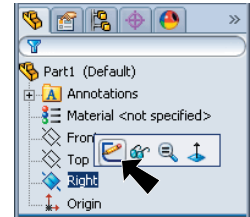

Fig. 1
Step 2. Click **Right** (plane) in the Feature Manager and click **Sketch** from the Content toolbar, **Fig. 1**.